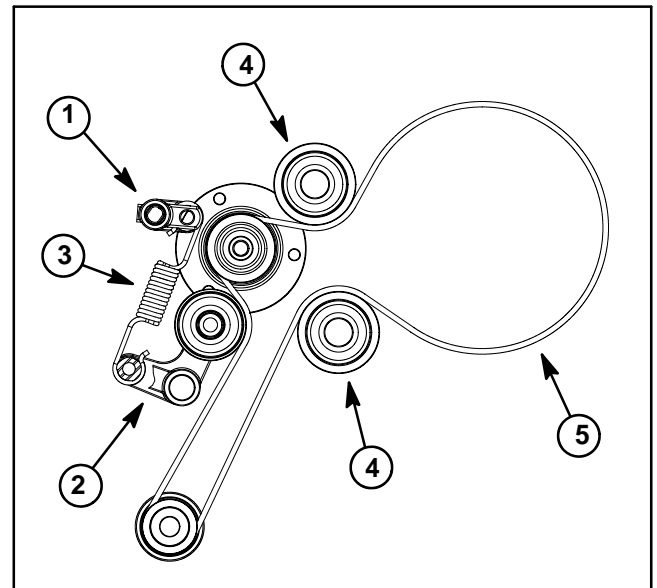

Figure 35
- B. If extension spring (item 4) was removed, make sure that ends of spring are orientated as shown in Fig. 35.
- C. If main drive idler (item 5) was removed, secure idler to transmission housing with shoulder screw (item 13). Torque shoulder screw from **15 to 17 ft-lb (21 to 23 N-m)**.